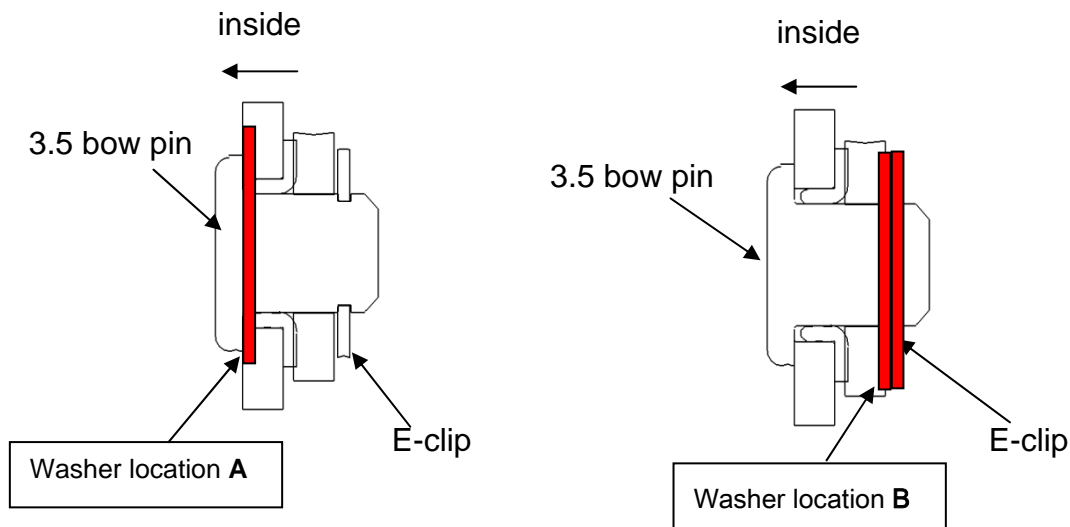

Figure 36
- c. You will find one of the following (see Figure 36):